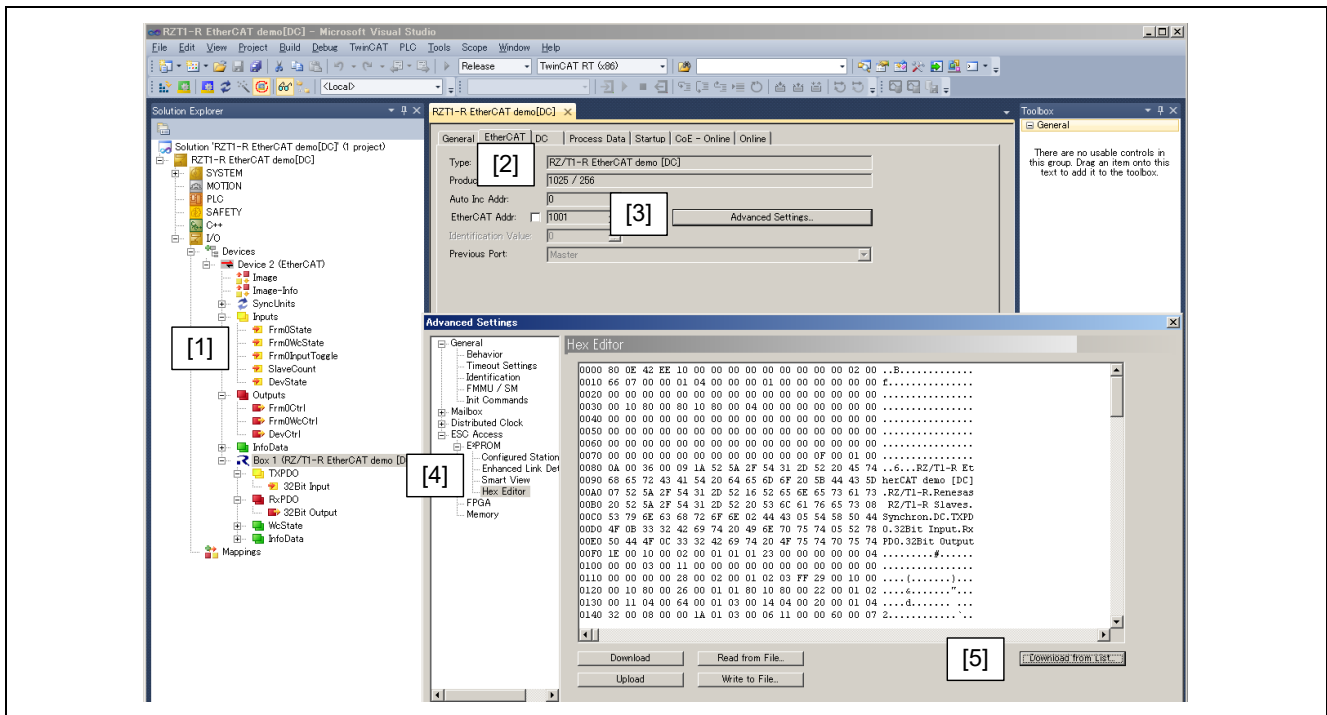

Figure 7.5 Procedure for Replacing the Data on the EEPROM (1)
(1) Double-click [Box 1] to display a panel on the right side of the window as in Figure 7.5.
(2) Select the [EtherCAT] tab.
(3) Click the [Advanced Setting] button.
(4) Select [ESC Access] → [EEPROM] → [Hex Editor].
(5) Select [Download from list].
(6) Select [Available EEPROM Description].